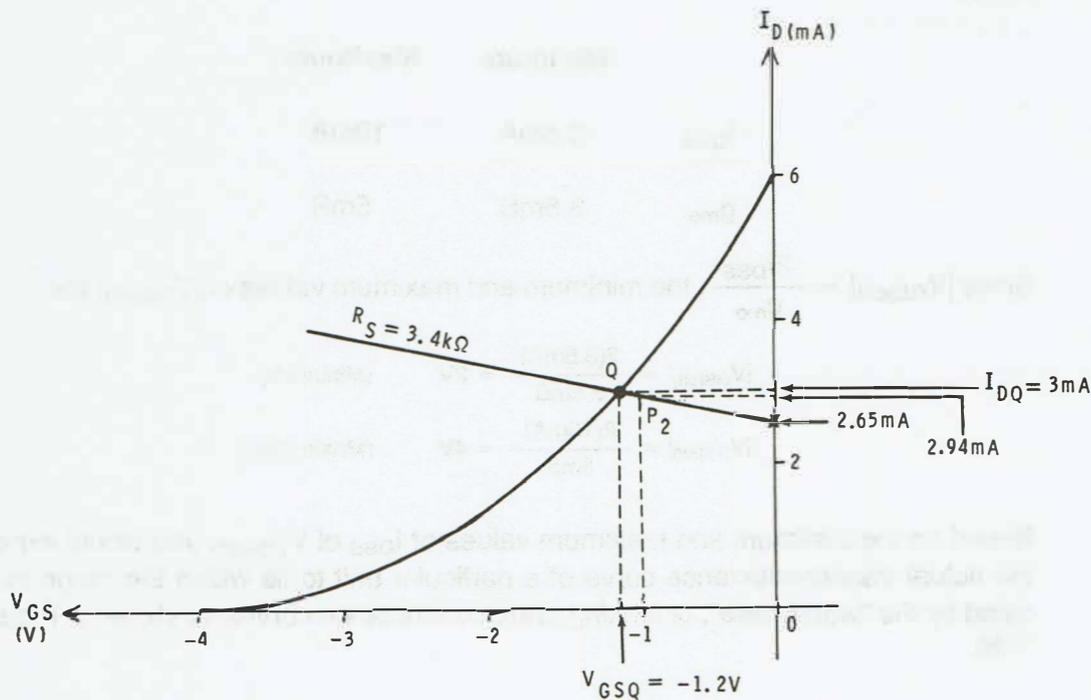

Figure 7-25
By drawing a line that passes through points P_1 and P_2 , you can obtain the bias line shown in Figure 7-25.
4. In Figure 7-25, the intersection of the transconductance curve and bias line provide a Q point at: